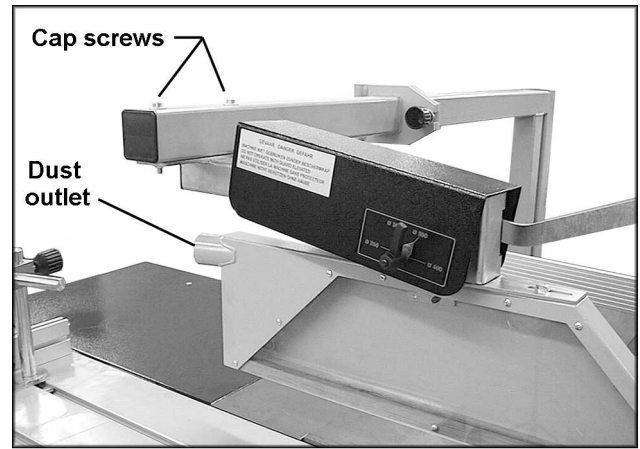

FIGURE 14
1. Mount the guard assembly (Fig. 14) to the overarm with two socket head cap screws through the holes in the overarm.